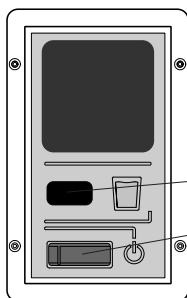

Fig. 10: Control panel AD, S-version
3. Turn off the dehumidifier via the mains switch. Then press the on/off switch **E-version** (Fig 9, Pos. 5), S-version (fig10, Pos. 2) on the control panel. If the dehumidifier is properly connected and the existing humidity is higher than the set humidity value (**only E-version**), the dehumidifier will start to operate. The final values of the humidistat, language and fan speed can be optionally taken (**only E-version**).
1. Turn off the dehumidifier at the on / off switch (Fig. 9, Pos. 5) and (Fig.10 Pos. 2).